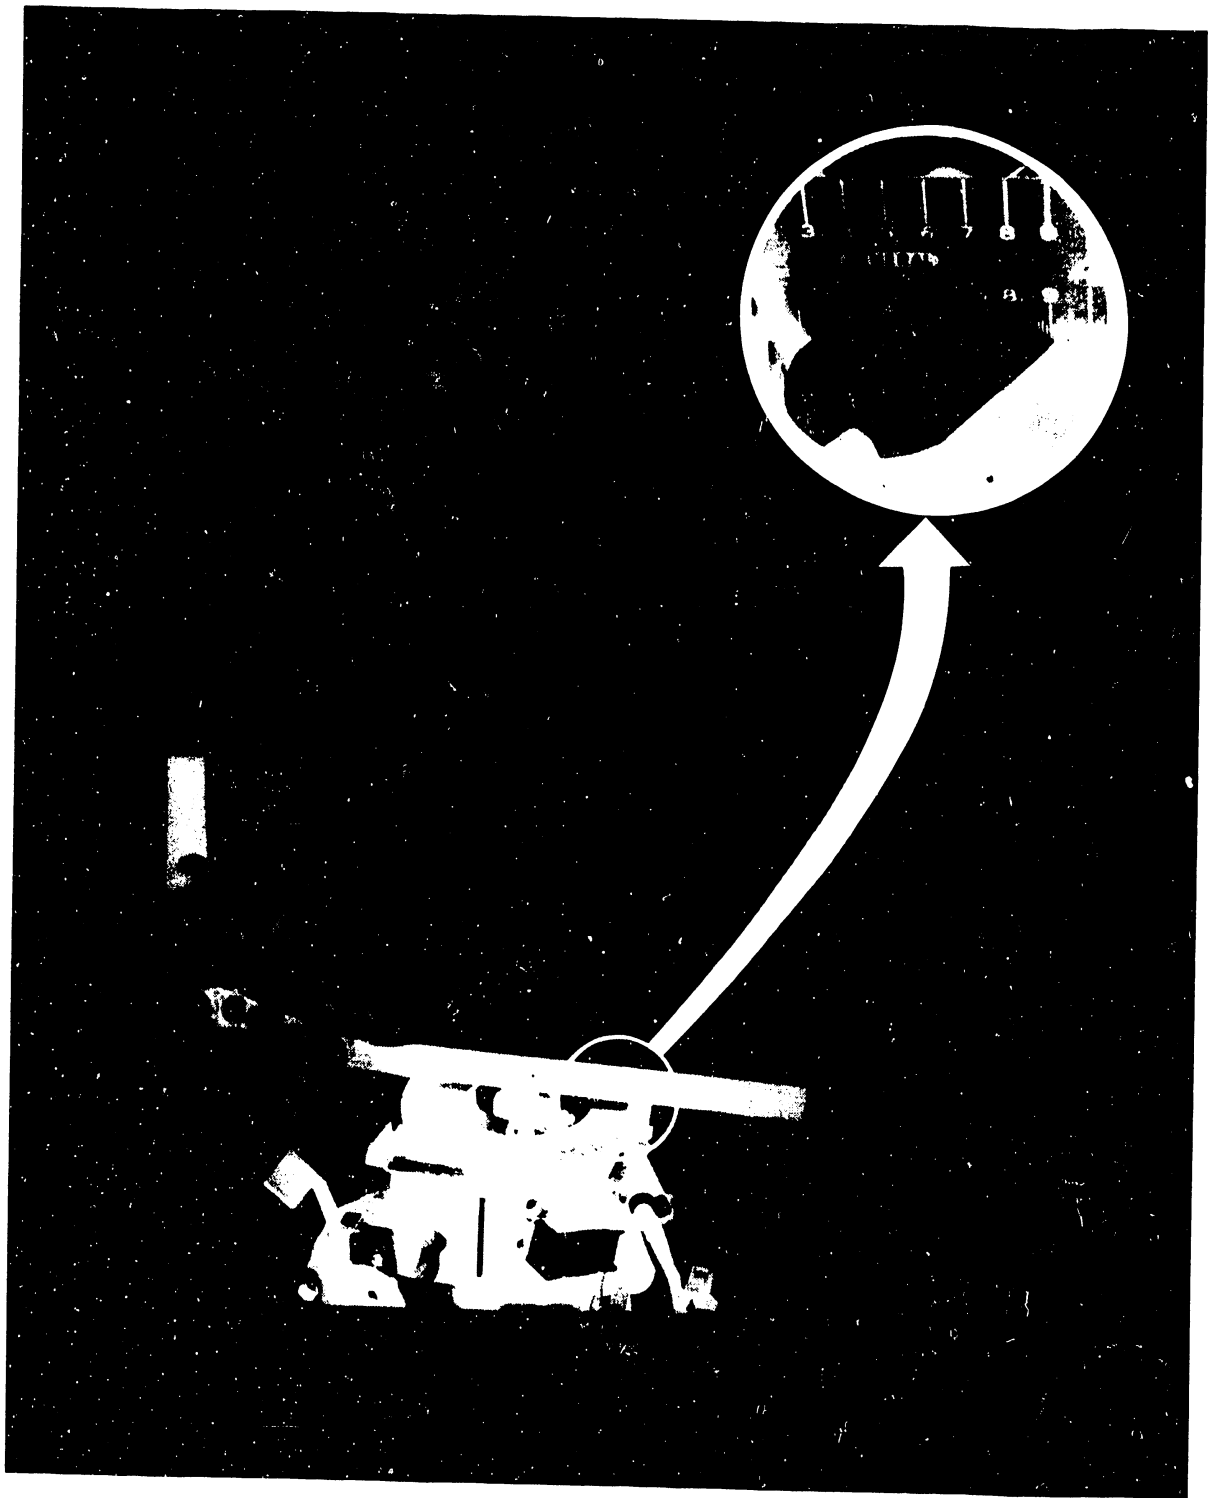

FIGURE 5-22 DAISY WHEEL DAMPER CHECK
5.2.1.1.24 Daisy Wheel Damper Check (Figure 5-22)